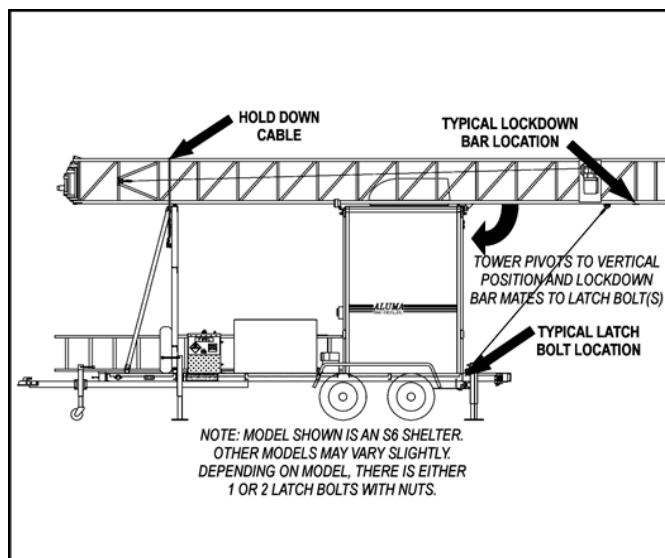

Fig. 7 Trailer Tower Component Locations
1. While the tower is still in the horizontal position, loosen and remove the hold down restraining cables that hold the tower in place for transporting. These cables are located on the front support of the trailer and/or shelter(see Fig. 7). **NOTE:** There may be more than one hold down cable at varying locations, depending on your specific model.
2. Using the manual brake winch on the rear support, crank the tower from the horizontal to the vertical position. It may be necessary to have one person support the load of the tower as the center of gravity shifts when nearing the vertical position. At the halfway position undo the nut(s) from the latch bolt(s) at the bottom rear of the trailer frame (*see Fig. 7*).
3. Secure the tower in the vertical position with the tower lockdown bar pivoting over the latch bolt(s) on bottom of rear trailer frame (*see Fig. 7*). Tighten the nut(s) with wrenches supplied in tool kit, TM-TK which is stored in the #664 or #684 storage box. Drive all three “Duckbill Ground Anchors” into the ground as described in the attached instructions, AT-418-1.